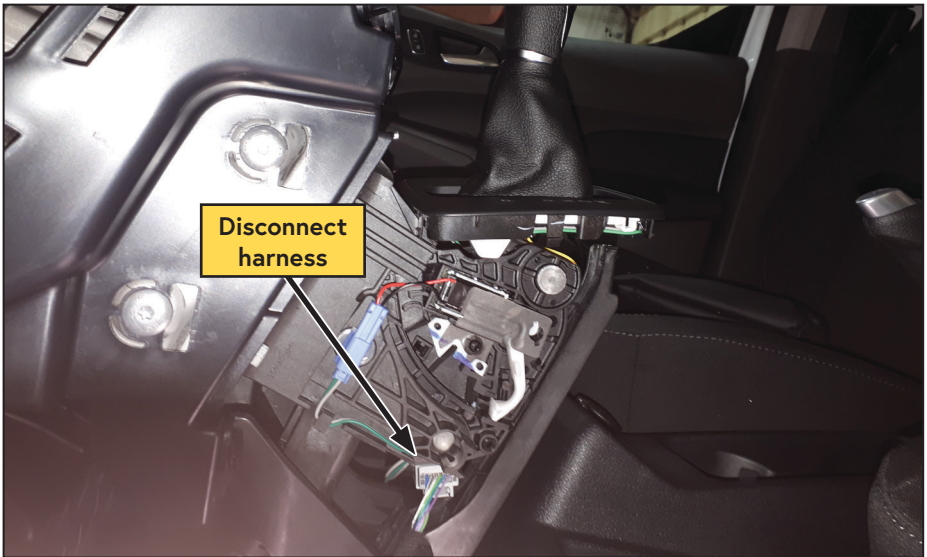

Figure 58 — Park interlock wire
- Unplug the connector at the bottom of the gear selector and splice the blue wire from the Throttle Control to the white/brown wire at pin 10 on the harness. Plug the connector back into the gear selector (Figure 58).